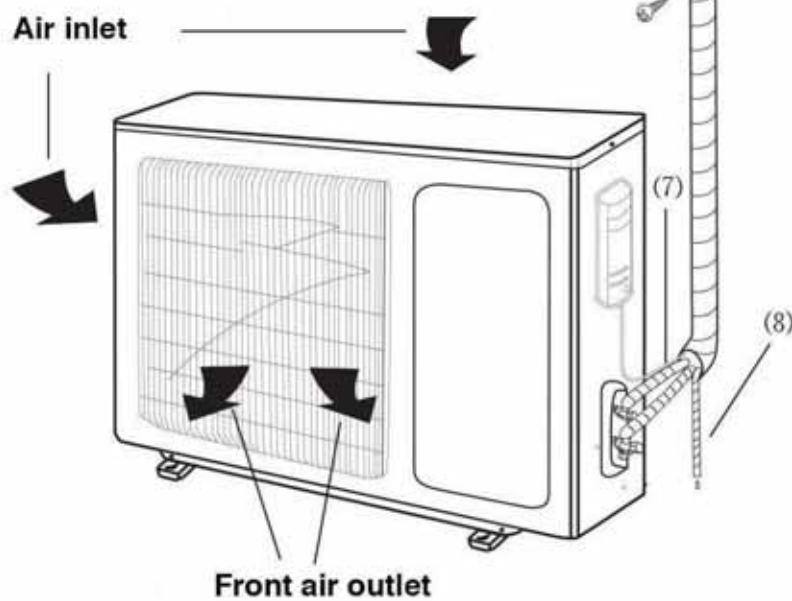

Fig. 1
1. Remove the back lid of the remote control by pressing  (fig.1)